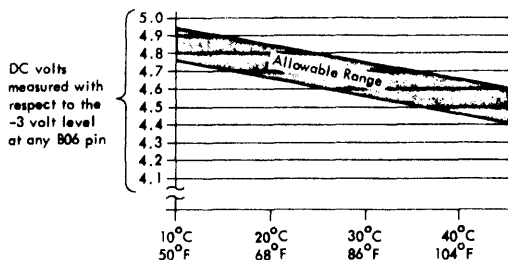

FIGURE 95. SP REFERENCE VOLTAGE TRACKING
2. Using the bottom potentiometer at 02B-A3J4, adjust for a potential difference of +4.8 volts. This setting should be made at room temperature of approximately 68°F. If the system must operate under other temperature conditions, use the graph of Figure 95 to determine the range of allowable reference voltage settings.